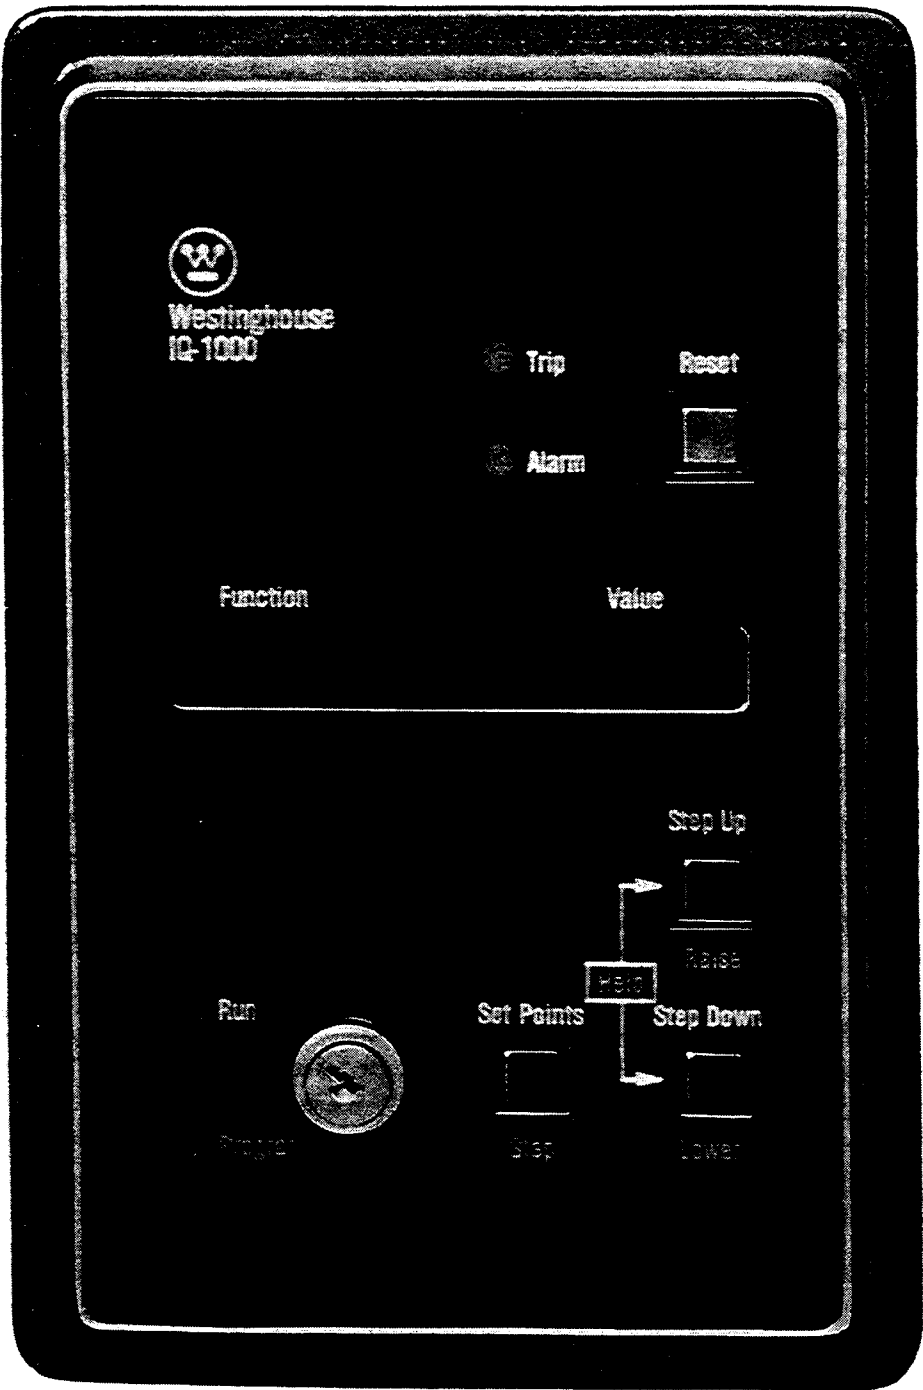

Figure 4.1 — Operator Panel
4.1 General Description — The Operator Panel's pushbuttons are designed to be **multifunctional** in relation to the position of the Run/Program keyswitch. (See Figure 4.1.) This keyswitch controls the IQ-1000's two modes: program and run-monitor.
The colored designations on the Panel correspond to the operations that the functions perform in each of these modes of operation. (See Figure 4.1.)